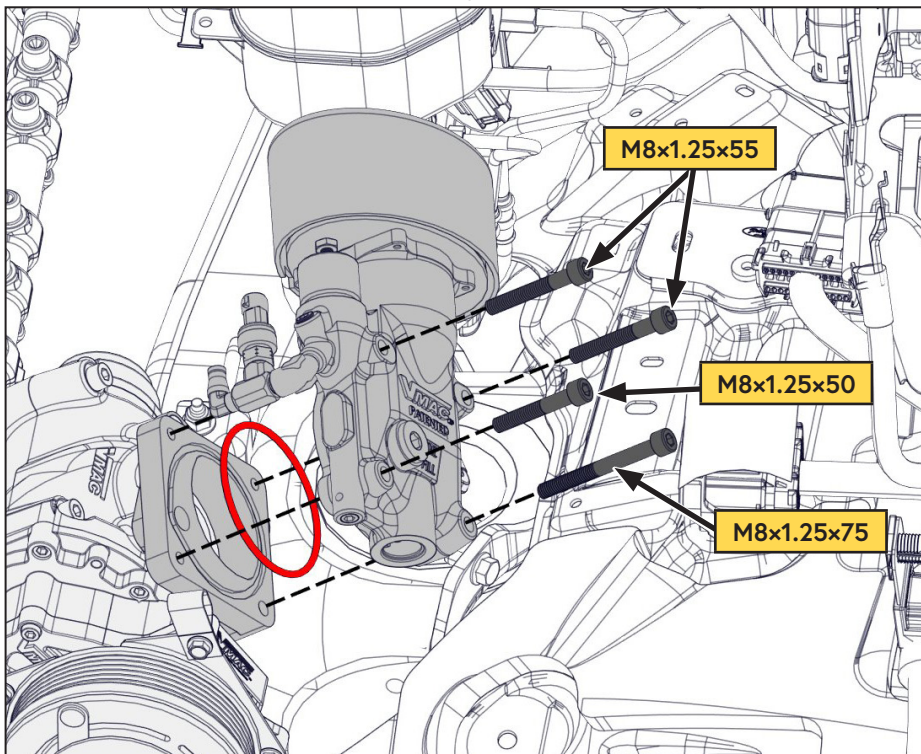

Figure 54 — Install the inlet
- Remove the protective covering and reinstall the Viton O-ring and inlet onto the compressor. Torque to specification (Figure 54).